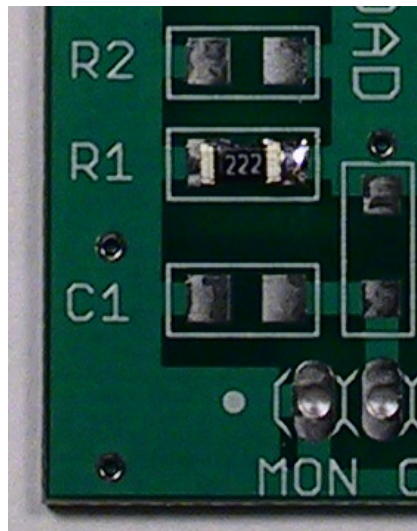

Figure 3. Correct R1 orientation
- Place the resistor on top of the right solder pad at R1 with the numbered side facing up, as shown in Figure 3.
- Using tweezers, press down on the part and heat the right pad until the solder melts and the resistor sinks down. If the part shifts, reheat the joint and reposition R1 until it resembles Figure 3.